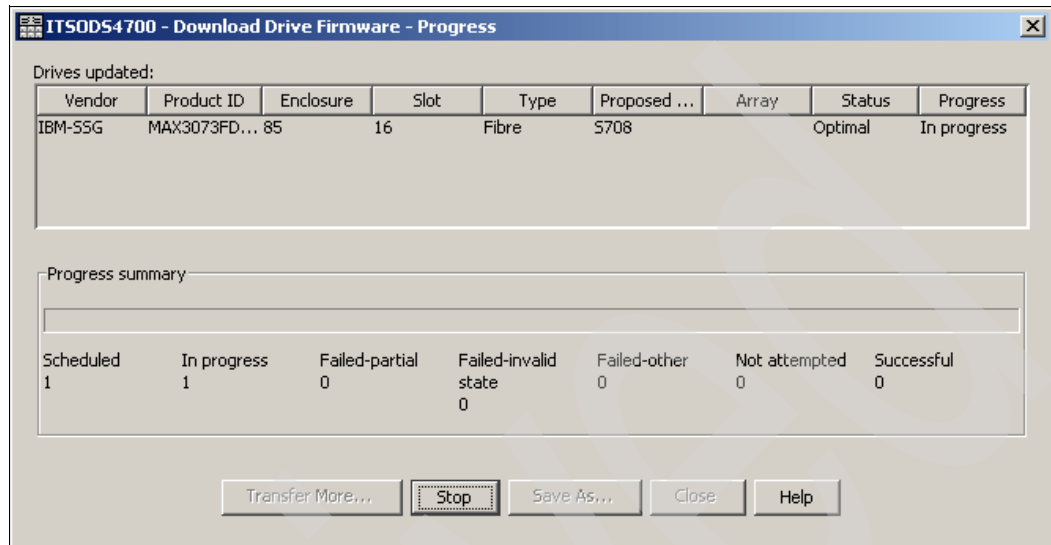

Figure 9-19 Drive firmware update: Download progress window
- Once the drive firmware download procedure starts you can monitor the progress, as shown in Figure 9-19. This gives you information about the current status of the download. After the process is finished you can also see whether all drives were successfully updated.